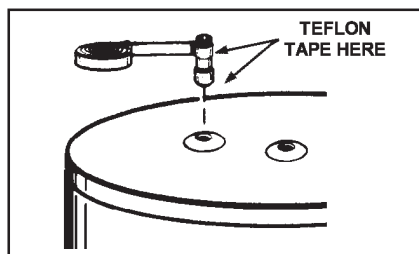

FIGURE 20.
2. Put two or three turns of teflon tape or pipe joint compound around both the threaded end of the 3/4" x 3" nipples, and using a pipe wrench, tighten the nipples into the "HOT" and "COLD" fittings of the water heater, see Figure 20.